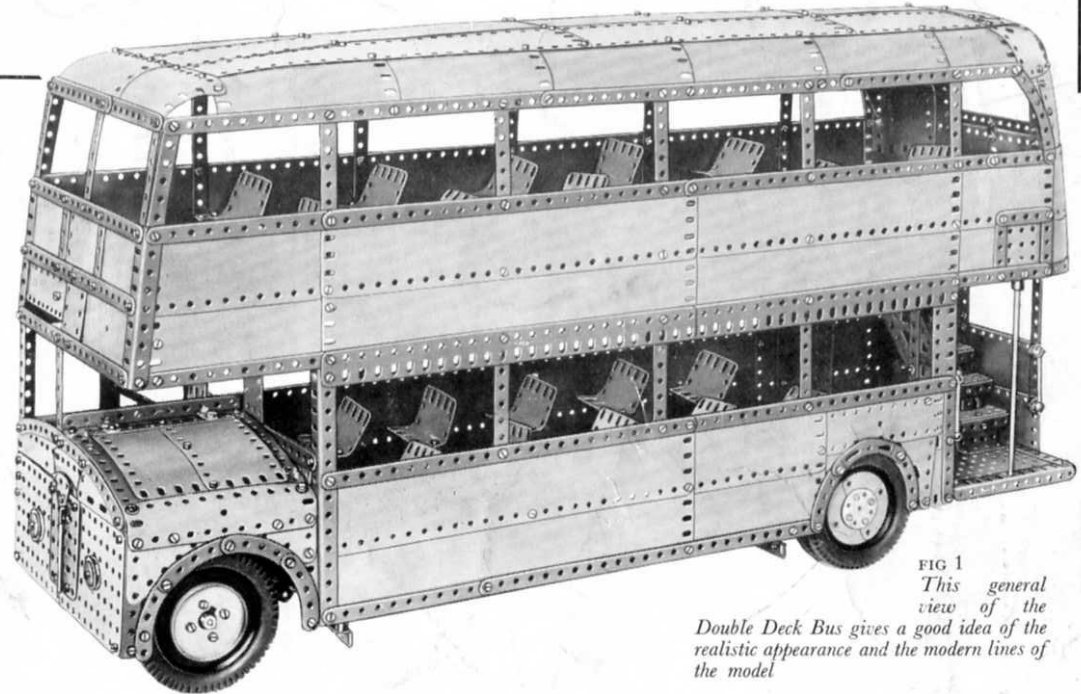
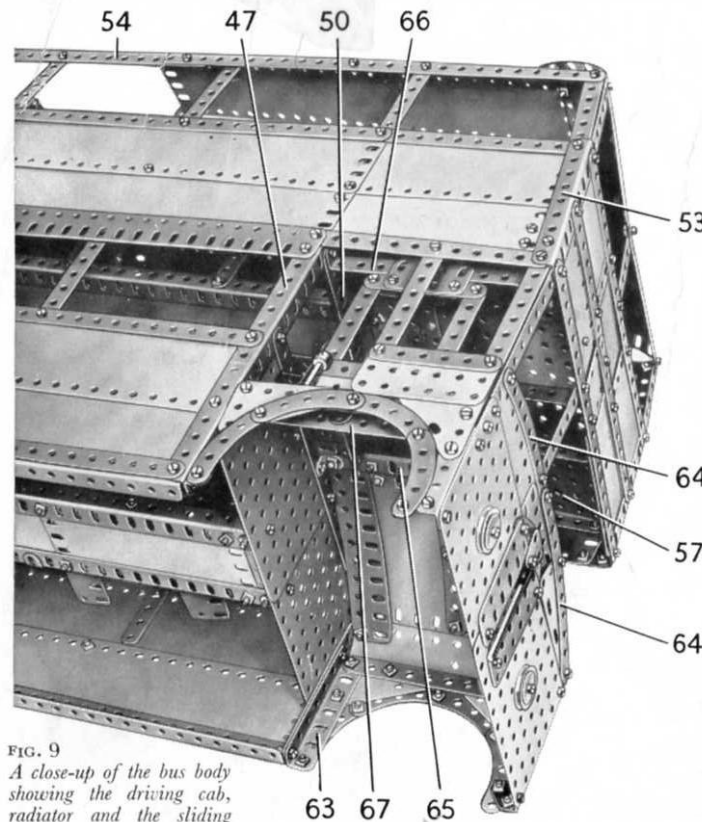

FIG 1
FIG. 9
The main section of the side seen in Fig. 1 is similar to the one already described, but it is shorter and ends at the Girder (49); also a $2\frac{1}{2}" \times 2"$ Triangular Flexible Plate is used instead of a $2\frac{1}{2}" \times 1\frac{1}{2}"$ Triangular Flexible Plate over the wheel arch. The window divisions are connected by two $12\frac{1}{2}"$ Flat Girders overlapped four holes.
The other side, which is seen in Fig. 1, is similar in general arrangement to the one already described, but it varies in slight details. The top edges of the Plates are strengthened by two $12\frac{1}{2}"$ Strips, a $5\frac{1}{2}"$ Strip and a 3" Strip, and the lower $4\frac{1}{2}" \times 2\frac{1}{2}"$ Flexible Plate at the rear is replaced by a $2\frac{1}{2}" \times 2\frac{1}{2}"$ Flexible Plate and a $2\frac{1}{2}" \times 2\frac{1}{2}"$ Flat Plate. The Flat Plate is edged by $2\frac{1}{2}"$ Strips, but is spaced from them by nuts on the bolts to represent a recessed destination indicator.
The assembly of this part of the model is shown clearly in Figs. 1, 8 and 10.
The side of the bonnet (Fig. 1) is a $5\frac{1}{2}$ " \times $1\frac{1}{2}$ " Flexible Plate curved lengthways and bolted to a 3" Angle Girder (63) (Fig. 9). A $2\frac{1}{2}$ " \times $1\frac{1}{2}$ " Triangular Flexible Plate and a $2\frac{1}{2}$ " \times 2" Triangular Flexible Plate cover the near-side wheel arch. The front of the bonnet is made from two $5\frac{1}{2}$ " \times $3\frac{1}{2}$ " Flat Plates overlapped three holes and bolted to 3" Angle Girders, which are attached to the sides of the cab and bonnet. The Flat Plates are extended upward by a $5\frac{1}{2}$ " \times $1\frac{1}{2}$ " and a $2\frac{1}{2}$ " \times $1\frac{1}{2}$ " Flexible Plate overlapped four holes, and by a $3\frac{1}{2}$ " \times $1\frac{1}{2}$ " Triangular Flexible Plate. The tops of these Plates are edged by two $5\frac{1}{2}$ " Curved Strips (64).
The sliding door consists of two $3\frac{1}{2}$ " Strips joined by a 3" Strip and a 3 " \times $1\frac{1}{2}$ " Flat Plate. A $5\frac{1}{2}$ " \times $\frac{1}{2}$ " Double Angle Strip (66) is arranged as shown in Fig. 9, and a $5\frac{1}{2}$ " Strip (67) is supported at each end by an Angle Bracket. A Fishplate bolted to the Flat Plate of the door slides between the Strip (67) and the edge of the Girder (62). A 2" Flat Girder is bolted to each side of the 3" Strip of the door, but one of them is spaced from the Strip by a 2" Strip. The Flat Girders slide freely on either side of the Double Angle Strip (66).